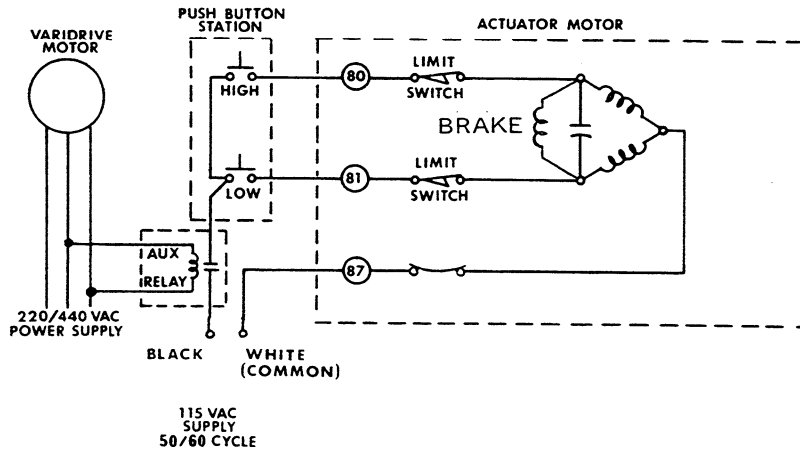

FIGURE 15
1. For units requiring operation from separate power supply, connect one line (white) of 115 VAC supply to terminal 87 as shown in Figure 15.
2. Connect line 2 (black) through relay to common side of high and low push button as shown in Fig. 15, and connect N.O. side of push buttons to terminals 80 and 81.